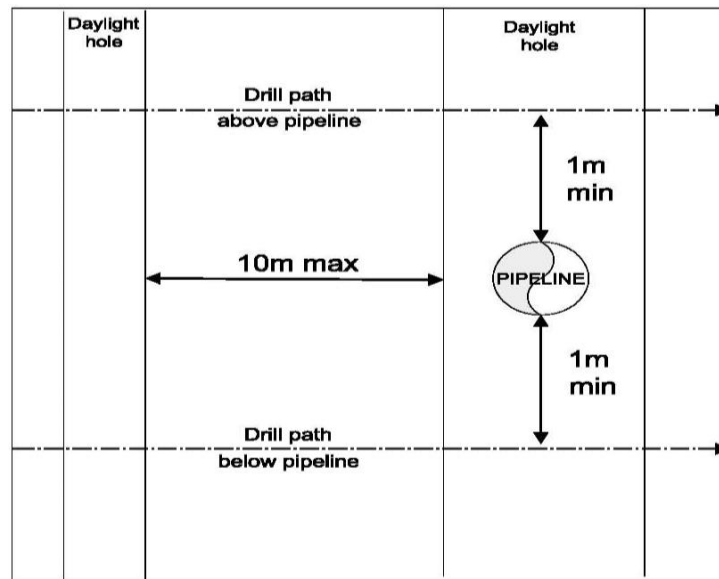

Figure 9: Cross section of perpendicular trenchless construction
3. In all cases, the pipeline shall be exposed (1m horizontally and vertically) by non-destructive methods to verify their horizontal and vertical locations. Refer to figure 9.
4. In all cases, daylight holes are required for visual confirmation of drill/bore path with actual depth measurements. The daylight holes must be no more than 10m apart. Refer to *Figure 9*.